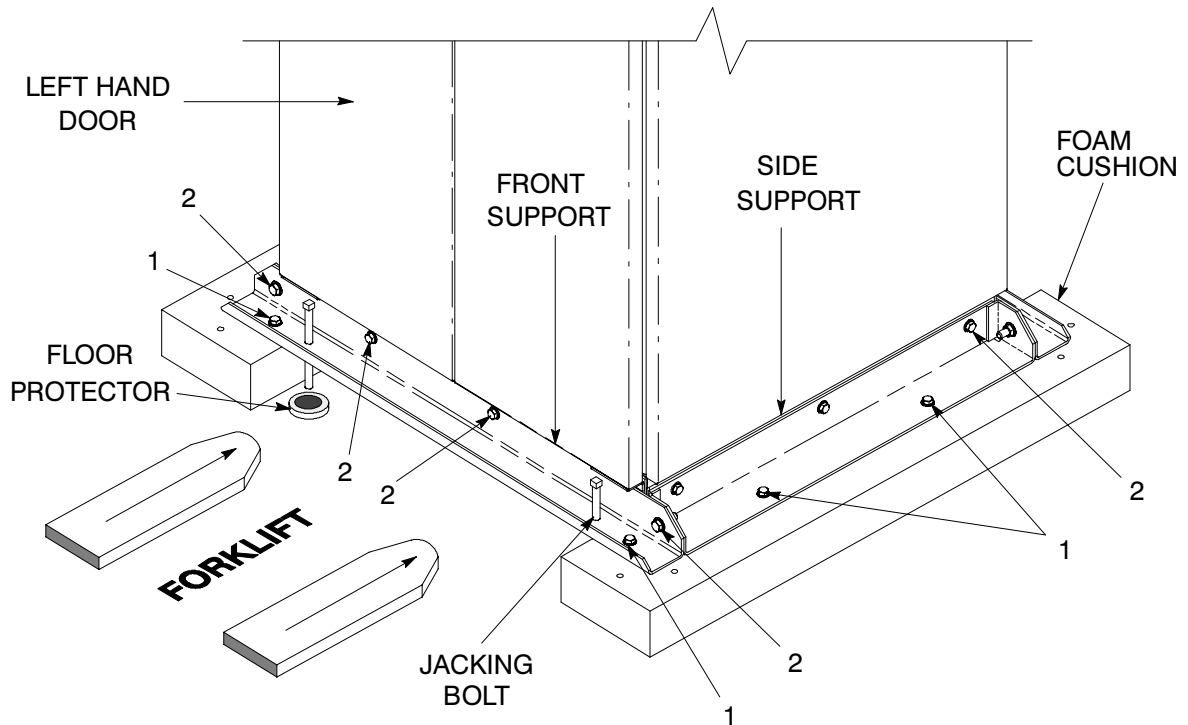

Figure 3. Removing Front and Rear Supports
3. Loosen, but do not remove the hardware holding the foam cushions to the front and rear supports (labeled "1" in Figure 3).
8. Remove the hardware labeled “2” in Figure 3, holding the front, rear and side supports to the cabinet base. Discard or recycle the hardware and support brackets in a responsible manner.